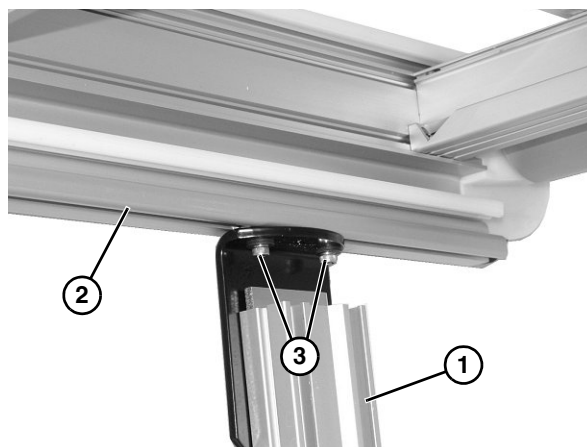

Figure 24
2. Attach stands (**Figure 24, item 1**) to the bottom of the conveyor frame (**Figure 24, item 2**). Tighten socket head screws (**Figure 24, item 3**), on each side, to secure in place.